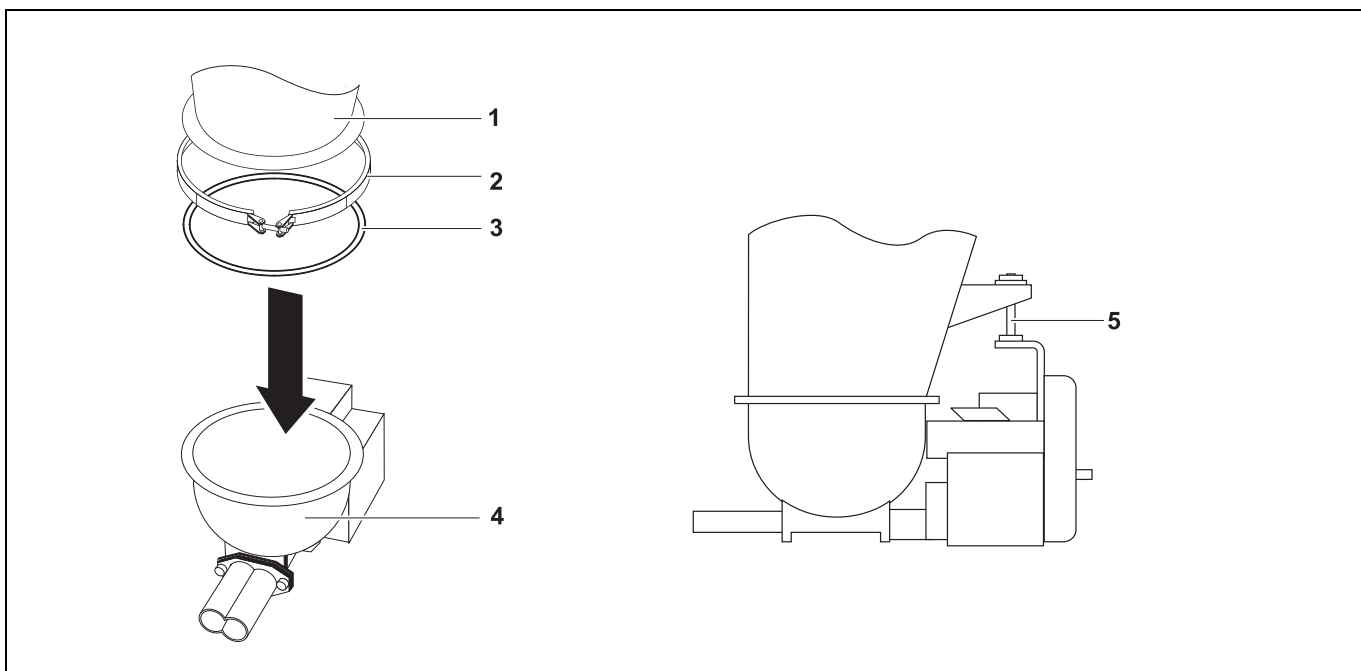

Fig. 7.1 Replacing the hopper
5. On 3-point-weighing-systems swivel the feeder away via the hinge (see Fig. 7.1/5).
2. Lose the V-clamping ring (see Fig. 7.1/2).